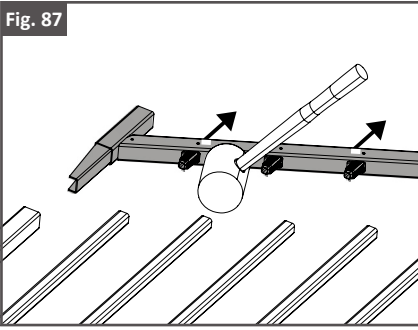

Fig. 88
10. Use previously found measurement (Fig. 86) to mark picket cut points. Measure from the end of picket inward and mark the cut points. As shown in Fig. 88.